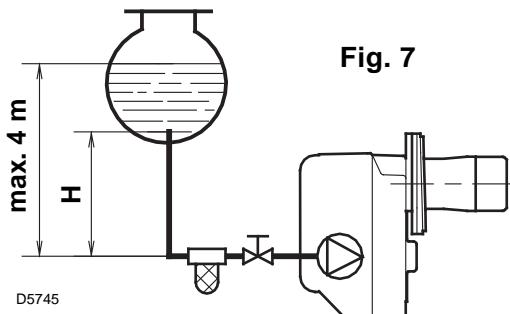
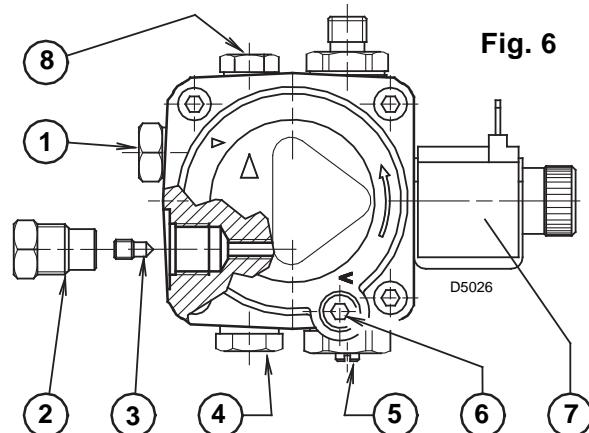

Fig. 7
Fig. 6
- The pump is designed to allow working with two pipes. In order to obtain one pipe working it is necessary to unscrew the return plug (2), remove the by-pass screw (3) and then screw again the plug (2). (See fig. 6).
On the system in fig. 7 it is sufficient to loosen the suction gauge connection (5, fig. 6) and wait until oil flows out.